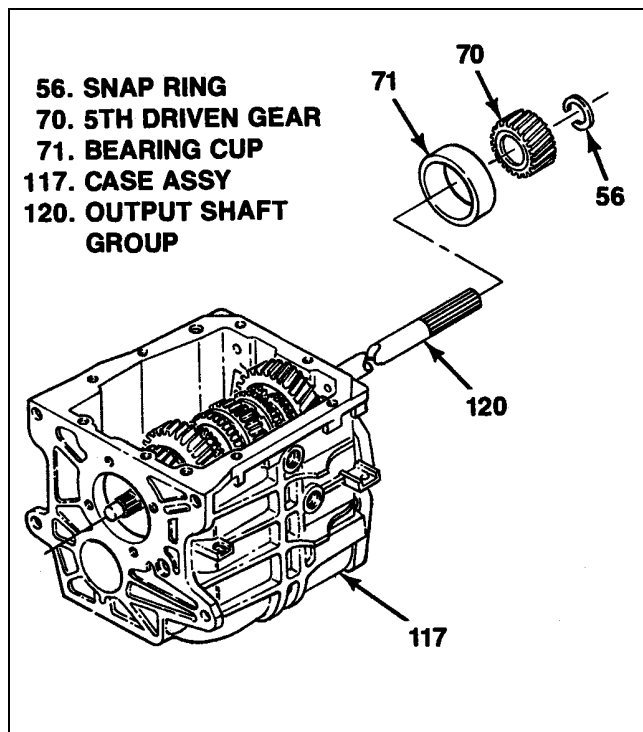

Figure 6-10. Installation of T5 WC Output Shaft Group
6-12. INSTALLATION OF T5 WC OUTPUT SHAFT GROUP. After assembly of output shaft group (120) (paragraph 6-11), install as follows (see figure 6-10):
- a. Tilt rear end of output shaft group (120) down and install through top opening and out rear of transmission case (117). Rest output shaft group on countershaft previously installed.
- b. At rear of transmission case 8117), install bearing cup (71), 5th, driven gear (70) and one snap ring (56).